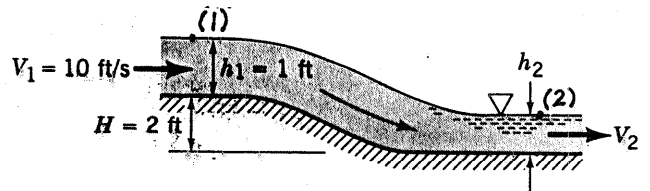

FIGURE P3.92
3.92 Water flows down the sloping ramp shown in Fig. P3.92 with negligible viscous effects. The flow is uniform at sections (1) and (2). For the conditions given show that three solutions for the downstream depth, h_2 , are obtained by use of the Bernoulli and continuity equations. However, show that only two of these solutions are realistic. Determine these values.